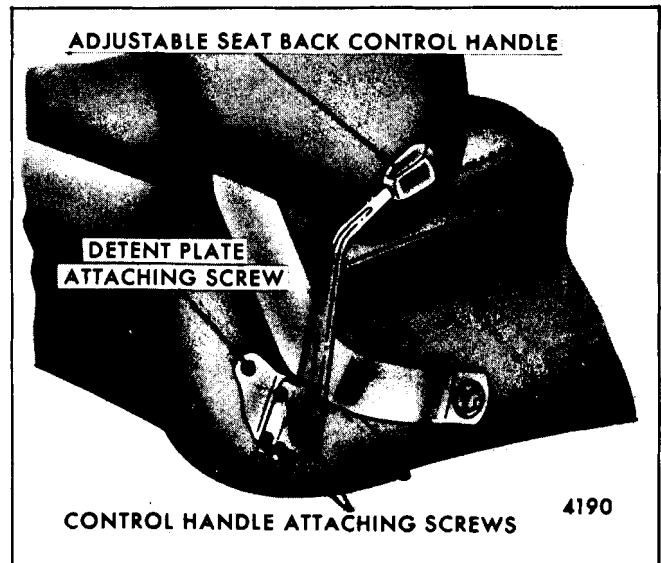

Fig. 14-43-Adjustable Drivers Seat Back - Inner Side - Chevrolet "F" Styles
1. At inner side of seat remove handle screws (see Figs. 14-43 and 14-45) and remove handle.
5. Remove screw securing inner detent plate and remove detent plate (see Figs. 14-43 and 14-45).